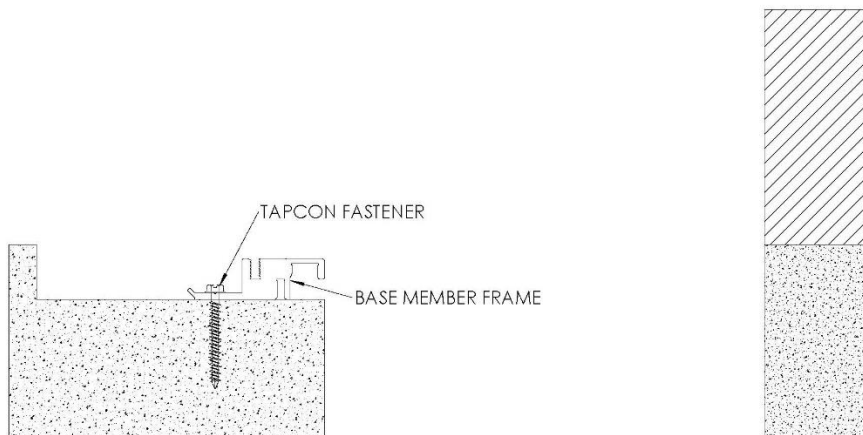

FIGURE 2
2. Position base member frame in blockout per shop drawings. Using the frame as a template, mark and drill 5/32" holes for Tapcon fasteners. Install base member frame to blockout opening with fasteners, making sure not to over tighten. **See Figure 2**